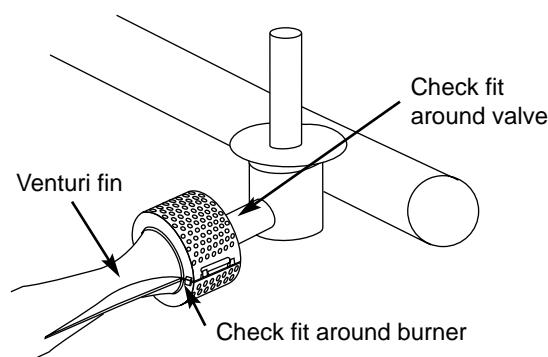

Figure 19
i) Reinstall the Spider Stopper Guards. Slightly rotate the Spider Stopper Guards so that the seams are in line with the Venturi fins. There should be no gaps in the seams or in the fit around the burners and valves. Figure 19.